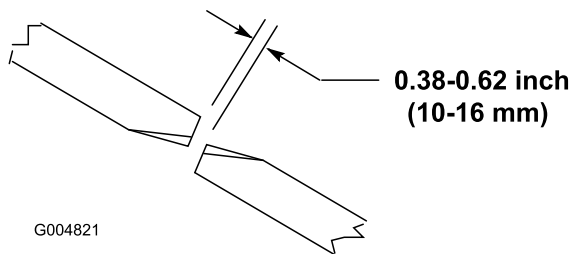

Figure 24
To ensure proper operation of the cutting unit, there must be 0.38-0.62 inch (10-16 mm) clearance between the tips of the wing and center cutting unit blades (Figure 24).
- Rotate a center and adjoining wing blade so there blade tips are aligned. Measure distance between blade tips, distance should be approximately 0.38-0.62 inch (10-16 mm) (Figure 24).